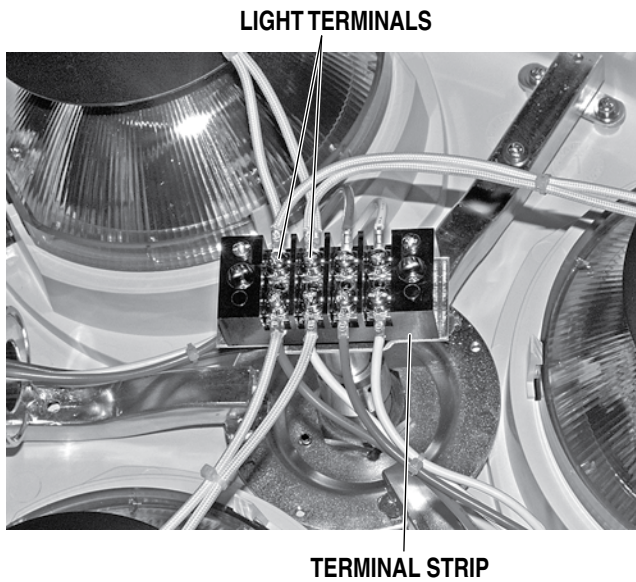

Figure 4-14. Bulb Voltage Test
a. Test bulb voltage at the terminal strip. Turn main power "ON" and set the Dimmer Control to maximum intensity for the test. Output voltage (at the terminals) should be $20V \pm 0.2V$. See figure 4-14.
a. Test bulb voltage at the terminal strip. Turn main power "ON" and set the Dimmer Control for the lighthouse being tested to maximum intensity for the test. Output voltage (at the terminals) should be $20V \pm 0.2V$. See figure 4-14.